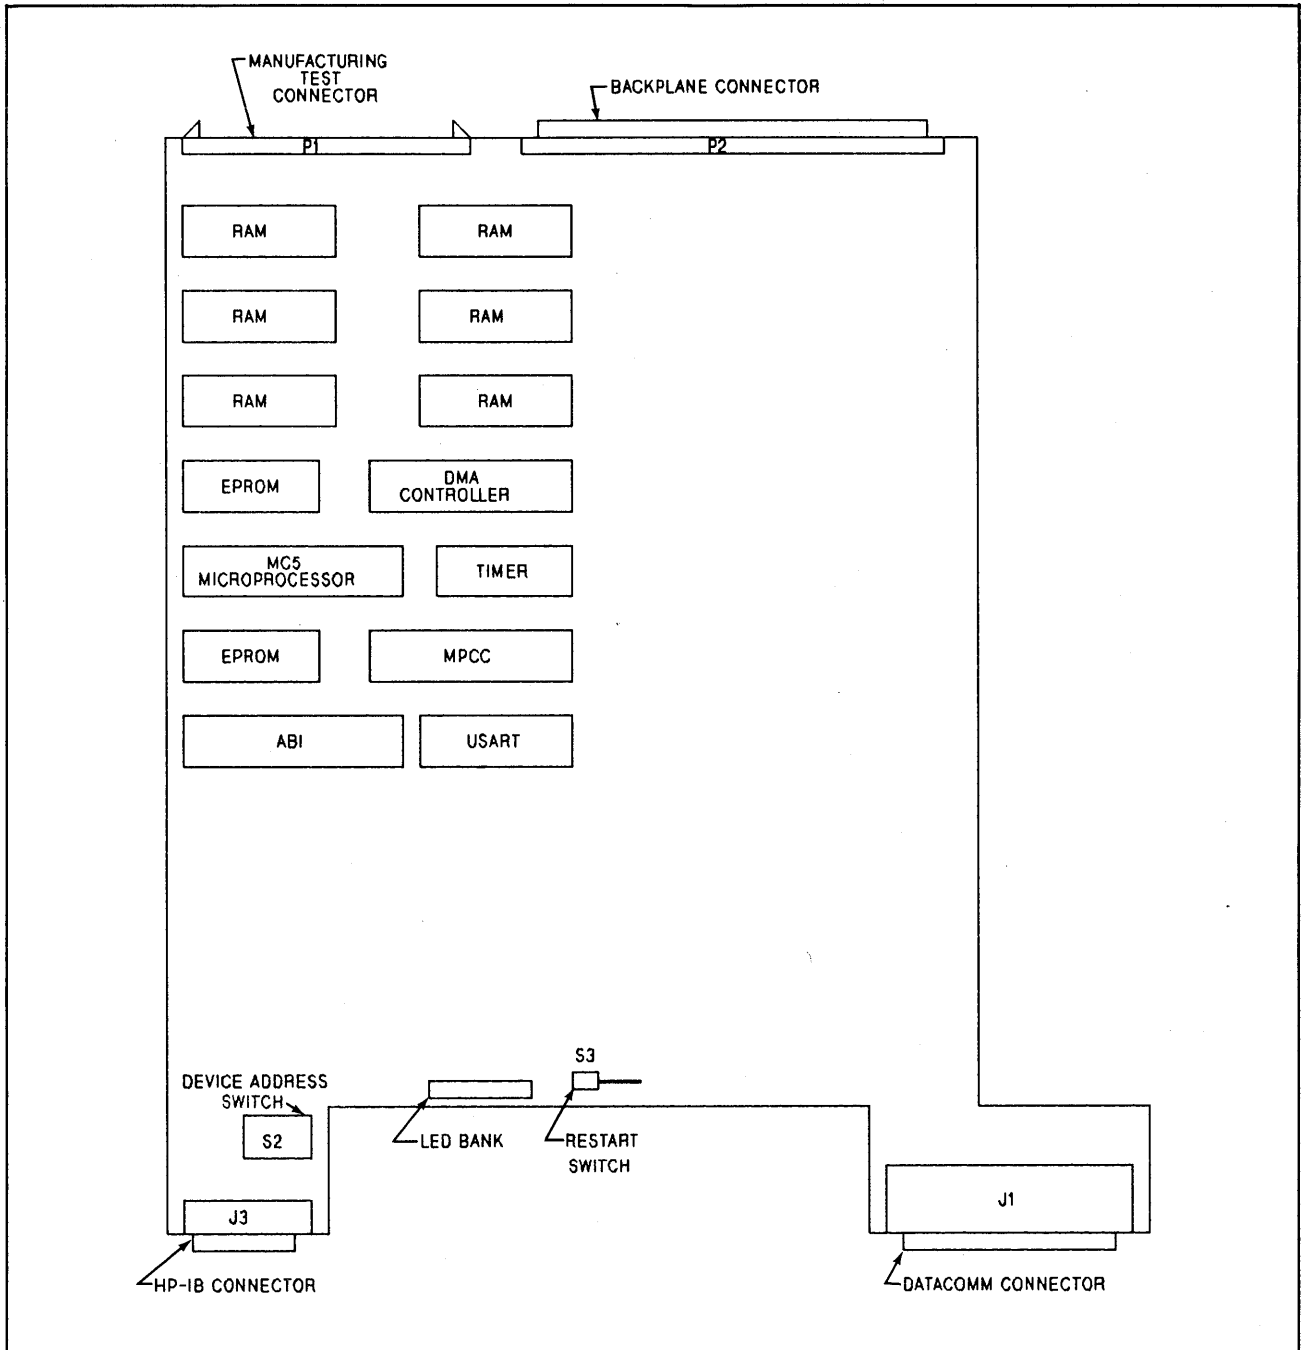

Figure 5-1. Location of Pertinent Components on INP PCA
As each test is successfully completed, the next test in the sequence is started, until the self-test cycle has been completed. The red LED indicators (located on the edge of the INP PCA board, as shown in Figure 5-1) wink on and off during the test cycle (approximately 2 seconds in duration) and stop in a pattern that shows the test results. If LEDs 0 and 7 (the ones at each end of the array) are the only ones lighted, all tests have been completed successfully. Any other pattern indicates a failure.
The INP self test checks most of the circuitry of the INP PCA board. If, upon completion of the self test, the self-test LED indicator lights (Figure 5-1) are displaying 0 and 7 (only the two lights at each end are lighted), there is no detectable hardware malfunction within the INP PCA board. If any other combination of lights is being displayed or if you still suspect a malfunction beyond the physical limits of the PCA board, call your Hewlett-Packard Customer Engineer (CE).
The RESTART switch shown in Figure 5-1 is used at the factory for initial board calibration as part of the manufacturing process, but the RESTART switch is not used in the field after the INP is installed in the HP 3000/37 Computer System.
2. Before initiating any other action, look into the computer card cage (through the fan) and observe the INP self-test LEDs (see Figure 5-1 for the location of the LEDs). Note whether the LEDs are flickering or a static pattern is being displayed, and make a written record of which LEDs are lighted. This information may be needed later if the problem persists beyond the initial steps of troubleshooting.